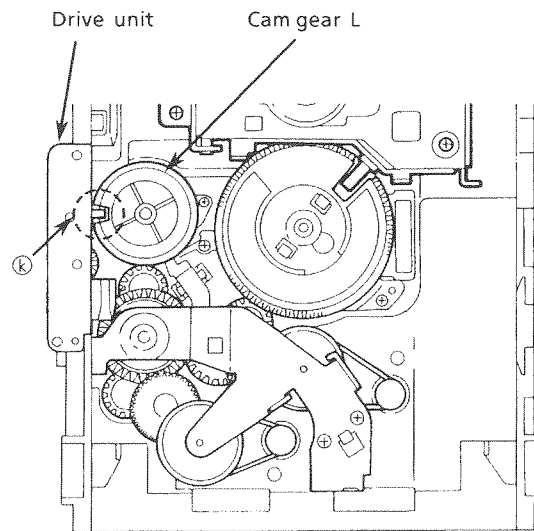

Fig. 41
2. Rotate the Cam gear L so that the drive unit's pole ⑥ is positioned as shown in Fig. 41.